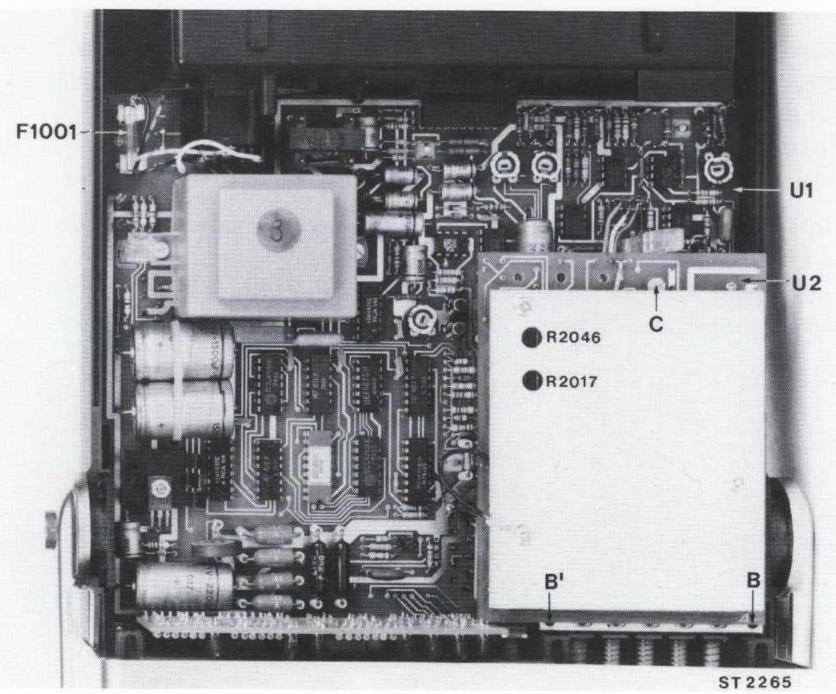

Fig. 30. Removing printed circuit board U2
- Remove screw "C" (Fig. 30, page)
- Remove screw "B" and "B'" (Fig. 30) out of the front panel.